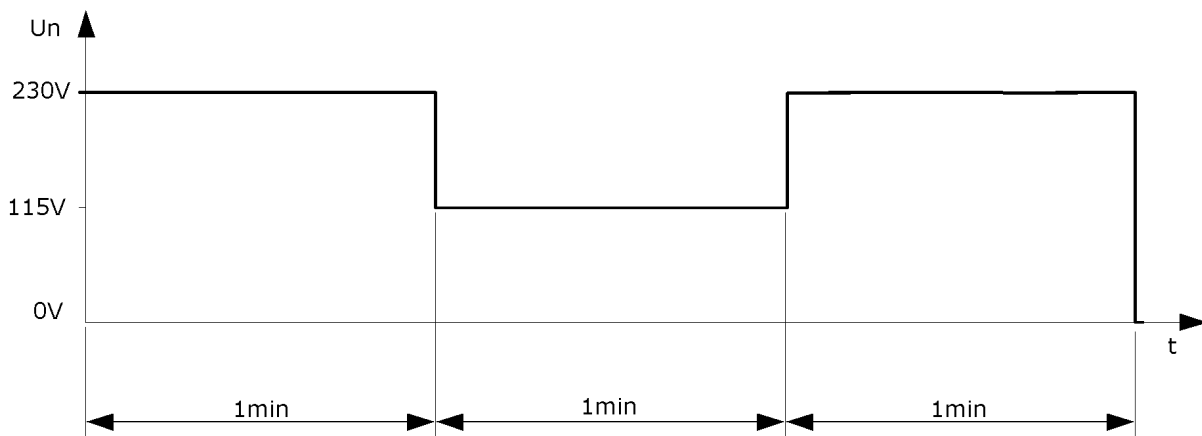

Fig.3.2. *Voltage dips of  $\Delta U = 50\%$*
Configuration of the procedure for a *voltage dips of  $\Delta U = 50\%$*  test is presented in Fig.3.2.
- c) set the *Change setting's Duration* time (pos.4) to 60 s (seconds),
- d) add configured point to the procedure (pos.5),
- e) repeat points from b) to d) to add rest of test points (according to Fig.3.2) – change will be required only in:
- f) save the procedure file (pos.6).